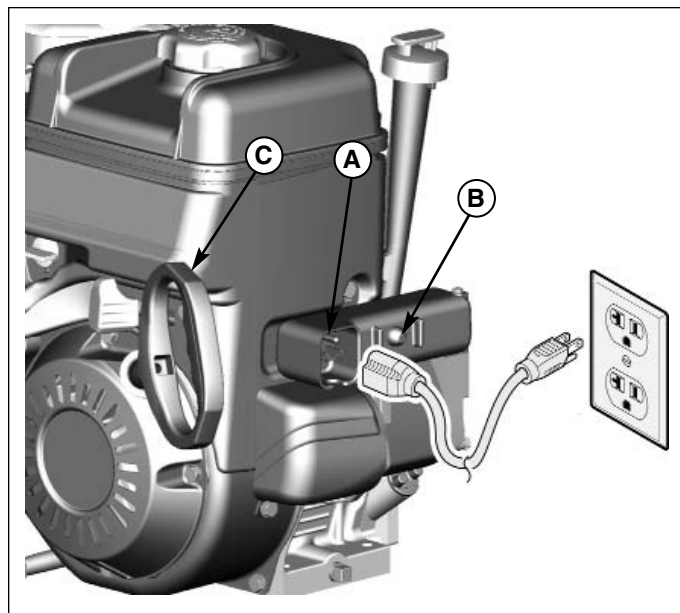

Figure 3. Start Engine - Electric
9. **Electric Start:** First connect the extension cord to the power cord receptacle (A, Figure 3) and then into a wall receptacle. If an additional extension cord is required, make sure it is a 3-wire.